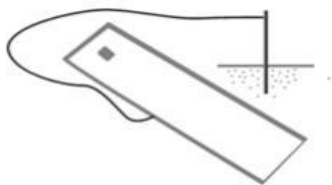
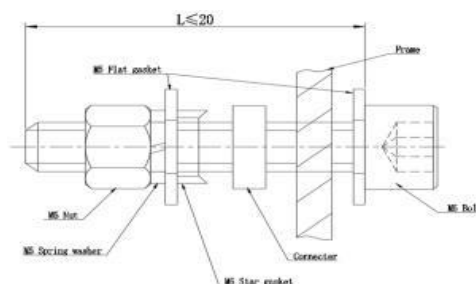

Figure 9 Module grounding circuit
Figure 10 Installation diagram of grounding bolt
4.1.3 The aluminum frame and support of the module must be grounded, as shown in Figure 9. Each module has a grounding hole and is marked on the frame (it is recommended that the series / parallel connection of each module must be grounded once). The installation method of grounding bolt is shown in Figure 10. The grounding wire and frame can be reliably grounded by the prepared grounding hole. And the flat washers, spring washers and nuts are matched by installing bolts M5 $\times 10 \sim 15$. The modules and the earth wire shall be perfectly connected by connecting plugs. Negative grounding inverter can be installed to prevent PID phenomenon.